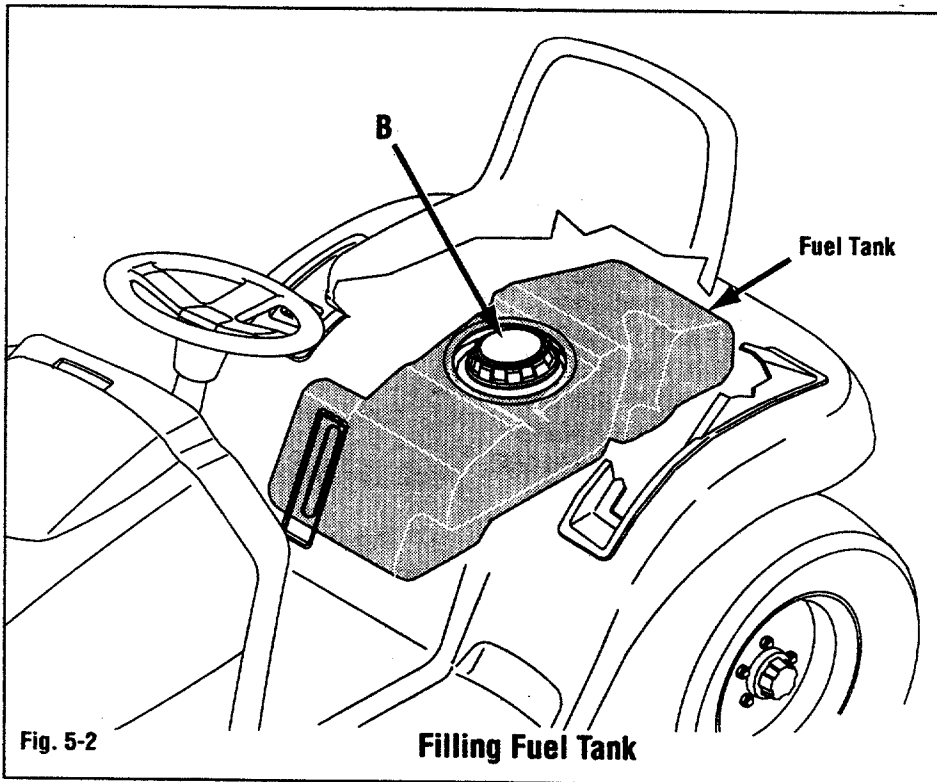

Fig. 5-2
- 3. Fill fuel tank with a good grade of clean, unleaded gasoline with an octane rating of 85 or higher. Fill fuel tank SLOWLY! Fuel fill cap (B, Fig. 5-2) is LARGE cap located under seat. Lift seat up and forward to access fuel fill. Leave ample room for fuel expansion.